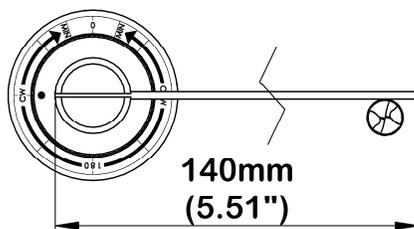

Figure 3: Needle length
- You may keep the standard Needle length (as shown in Figure 3), shorten the Needle, or purchase a longer Needle (up to 8”).